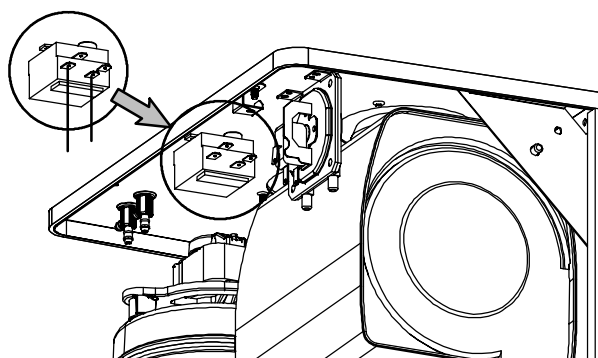

Fig. 82
**Warning: to correctly connect the Flue thermostat, refer to Fig. 82 and Fig. 69a or Fig. 69b for the correct wiring.**